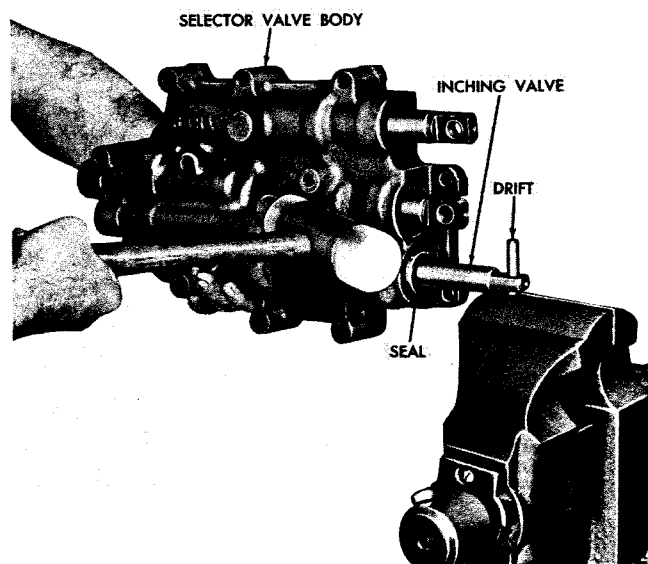

Fig. 6-4. Removing inching control valve—later model
(2) Anchor the inching valve to a drift or bolt held in a vise (fig. 6-4). Support the valve body horizontally and, with a mallet or soft hammer, drive the valve body off the valve. This will remove seal 45, plug 43 with seal ring 44, valve 42 and spring 41. Separate these parts.